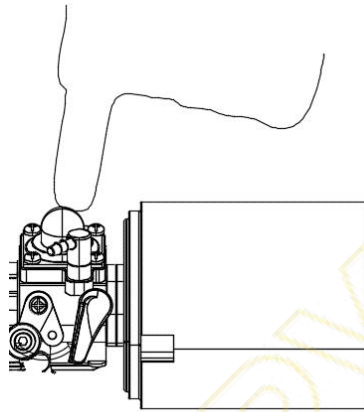

Fig 9
5.6.1 Before starting the engine, press the transparent oil bubble on the carburetor by hand (as shown in Figure 9) to make the oil inlet pipe full of oil and free of bubbles;